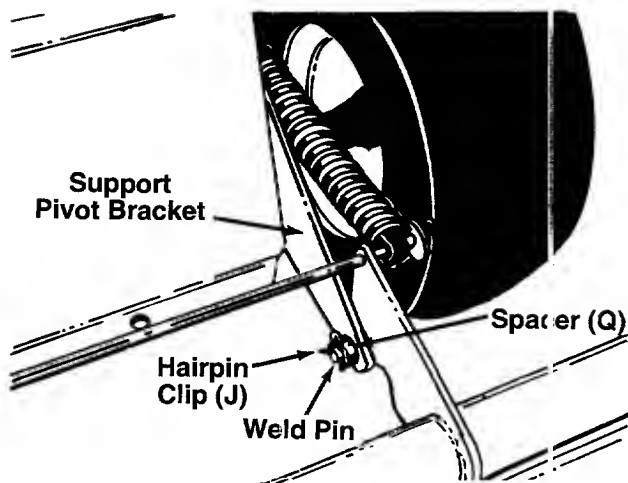

FIGURE 8.
16. There is a weld pin on the front of the tiller on the right hand side. Push the tiller forward, then to the left so the weld pin goes through the bottom hole in the right hand pivot support bracket. See figure 8.
17. Secure the weld pin using flat washer (D) and hairpin clip (J).